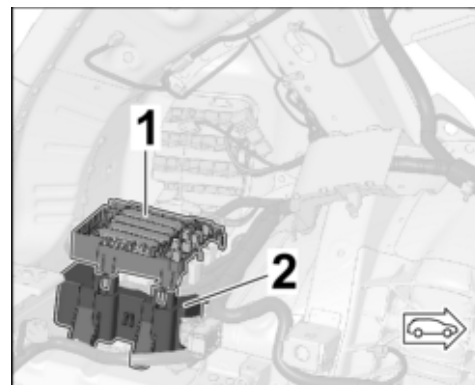

Figure 11
- 2.1 Loosen retaining frame fuse box in the luggage compartment. ⇒ *Figure 11* ⇒ *Workshop Manual '978409A8 Loosening and securing fuse box in the boot'*
- 2.2 Loosen holder with rear-end electronics control unit. ⇒ *Figure 11* ⇒ *Workshop Manual '578919A2 Remove and install control unit for rear-end electronics'*